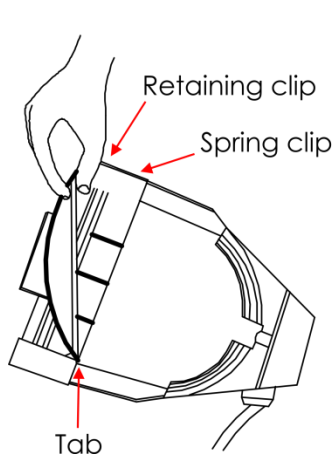

Fig. 06
- 03) Hold the lens by the edge, so that the convex side faces the back side of the device (fig. 06).